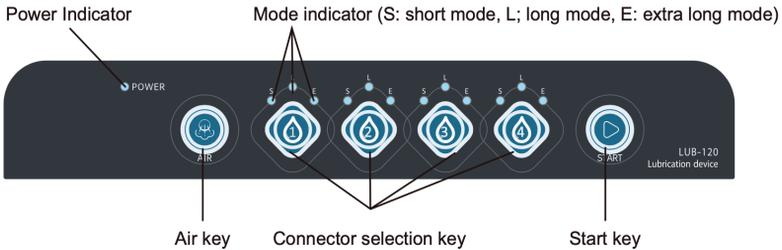

Figure 11
1. After turning on the power and turning on the power switch, the power indicator lights (see Figure 11).